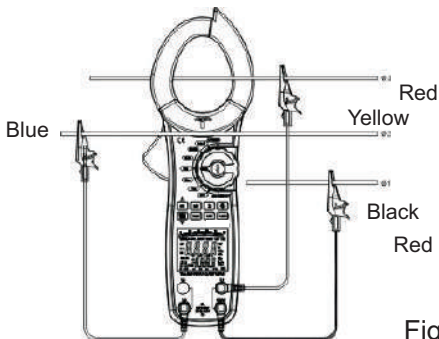

Figure 15
- When measuring 3 phase 3 wires, Hold **SEL** for 5 seconds and the Meter shows ~~303W~~, press **SEL** again for 5 seconds to exit 3 phase 3 wires, connecting the Meter as figure 15.
In figure 15 $\Sigma W = W2 + W3$.